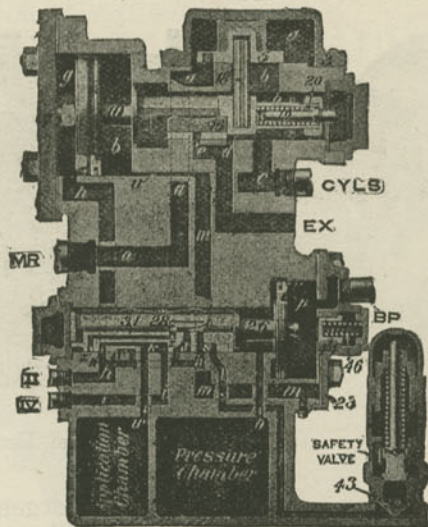

Fig. 441. No. 6 Distributing Valve, Diagrammatic.
A. The air supply comes from the main reservoirs through the distributing valve (Fig. 441) to the brake cylinders through the application valve in the distributing valve. The release slide valve 16 on the same piston stem lets the brake cylinder air to the atmosphere, in releasing. The application piston 10 always has brake-cylinder pressure on one side, and on the other, in the application cylinder, varying pressures according to the brake-valve handle position.